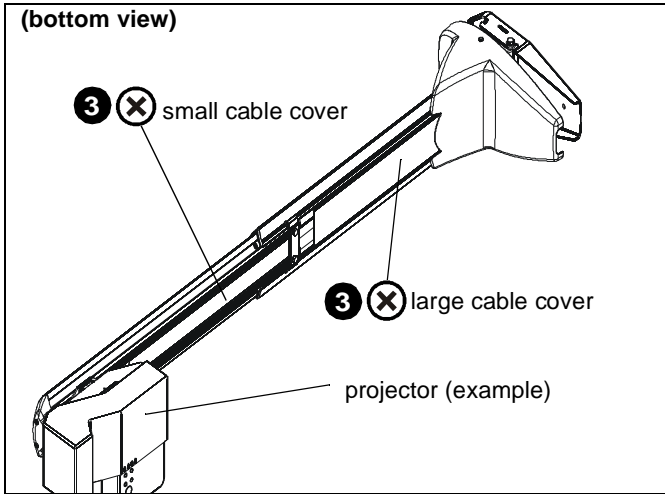

Figure 23
3. Remove cable management covers (if necessary) from short throw projector arm. (See Figure 23)